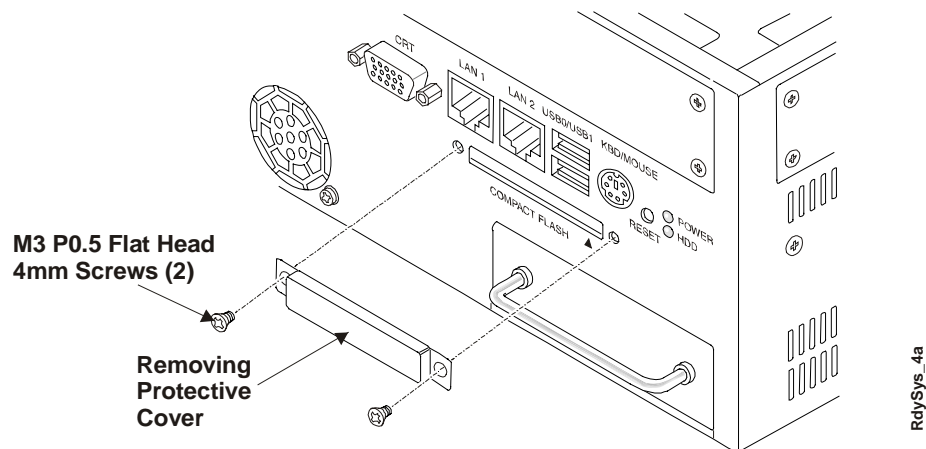

Figure 4-1. Removing CompactFlash Protective Cover
4. Use a Phillips screwdriver to remove the CompactFlash cover and place the two screws in a safe place for later use. See Figure 4-1.
9. If your application or environment requires protection of the CompactFlash card, for security or EMI value, you can re-install the protective cover over the CompactFlash card. See Figure 4-1. Reconnecting the protective cover will provide full EMI protection.